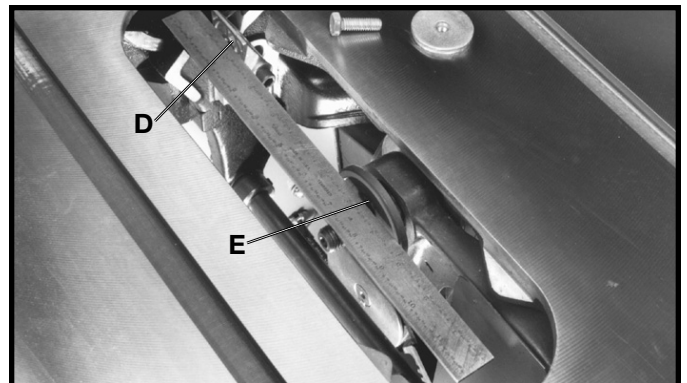

Fig. 31
5. Using a straight edge, check to see if the top and bottom of the inside splitter bracket (D) Fig. 31, is aligned with the inner arbor flange (E), as shown.